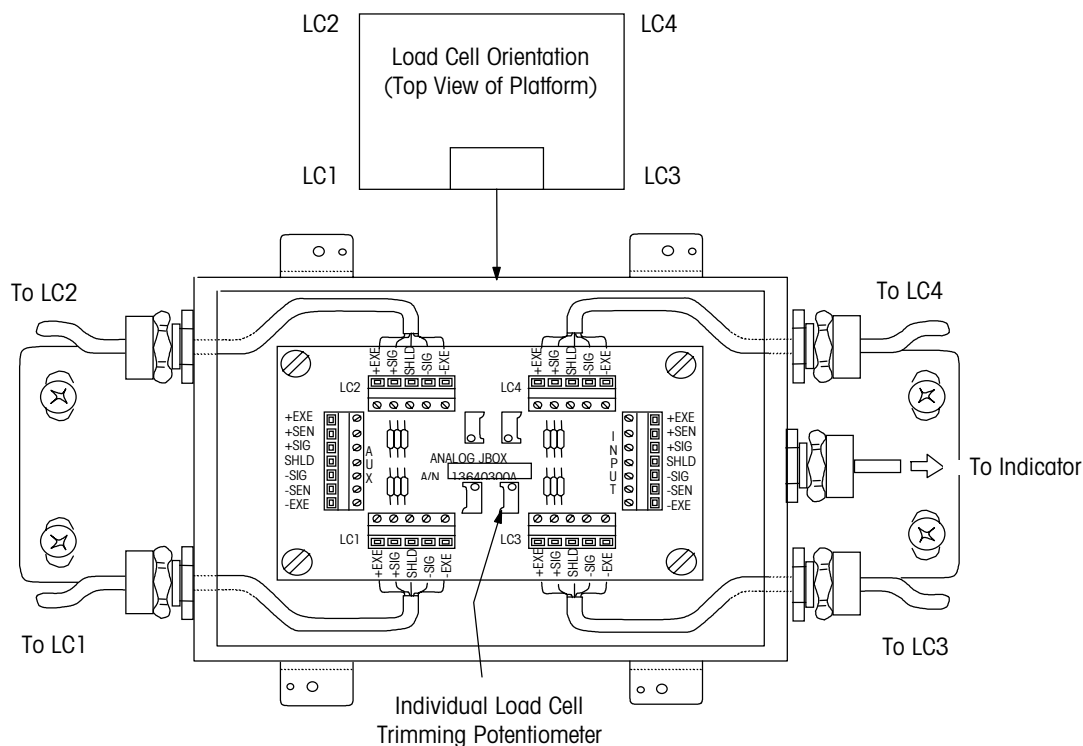

Figure 8-2: Load Cell Trimming Potentiometers
3. Place the test weight at the location immediately clockwise from the location at which you got the lowest weight reading. Then adjust the trimming potentiometer for the load cell that corresponds to the corner of the scale where the test weight is positioned (see Figure 8-2). Make the adjustment by turning the potentiometer until the weight reading matches the lowest reading.